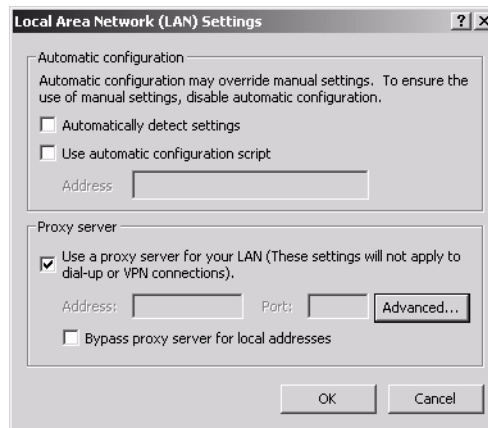

Figure 80: Accessing LAN settings
5. Click **LAN Settings** to access the dialog box shown in Figure 80.